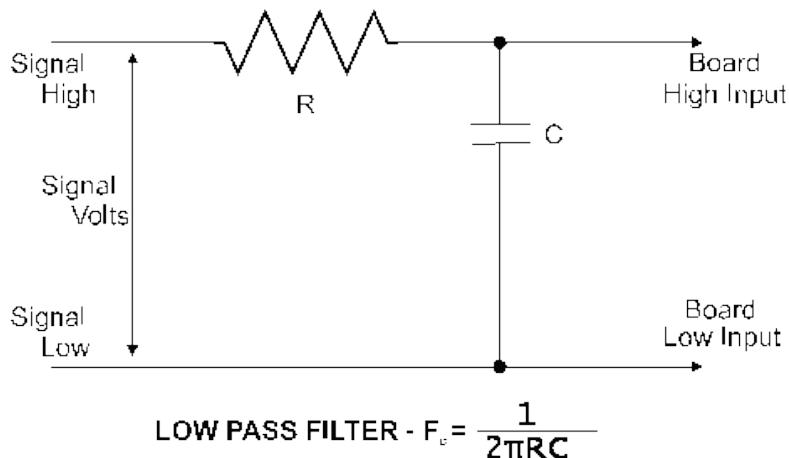

Figure 17. Low-pass filter schematic
In a digital circuit, a low pass filter might be used to "de-bounce" (filter) an input from a switch or external relay. (Unless switch/relay contacts are mercury-whetted, they tend to bounce briefly on closure, generating a pulsating noise signal.) A simple low-pass filter can be constructed from one resistor (R) and one capacitor (C) (refer to Figure 17).